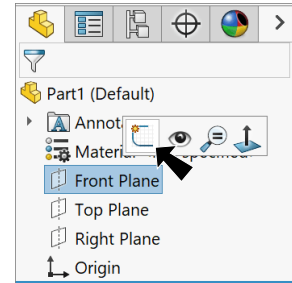
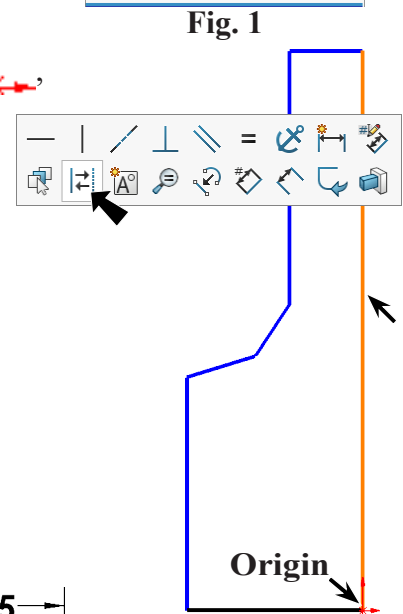

Fig. 1
Fig. 2
Step 2. Click **Front Plane**  in the Feature Manager and click **Sketch**  on the context toolbar, **Fig. 1**.
Step 3. Click **Line**  (L) on the Sketch toolbar.
Step 4. Sketch 7 lines with the last line vertical down to the Origin , right click vertical line at Origin and click **Construction Geometry**  on the context toolbar, **Fig. 2**.